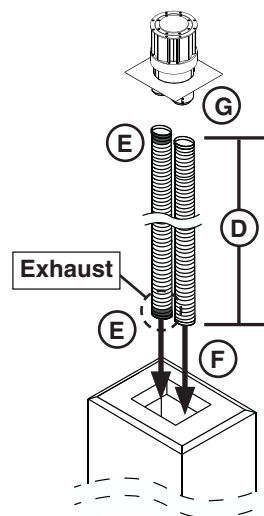
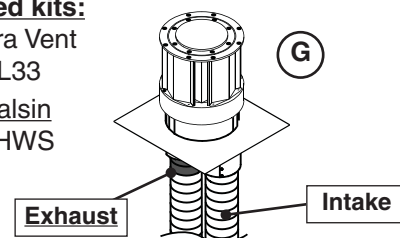

Fig. 25-2 Prepare, route, & connect pipes
Fig. 25-3 Termination cap install detail
4. Stretch the vent pipes to the measured length. Or, if necessary, cut the pipes to the measured length using snips or a hacksaw. See Fig. 25-2, D.
5. Mark each end of one pipe. This is the exhaust. See Fig. 25-2, E.
6. Carefully route the pipes through the chimney (see Fig. 25-2, F).
7. Connect the termination cap to the pipes as instructed in the manufacturer instruction (see Fig. 25-2, G, and Fig. 25-3).